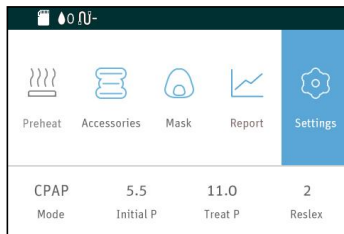
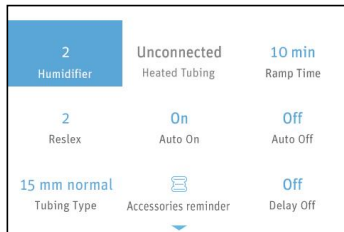

Fig. 16-3
Fig. 16-4
(1) Insert the WiFi kit into the device, and connect the power supply. Turn **the Knob** until the cursor is on the icon and the device screen displays the Main Interface shown in Fig. 16-3. Press **the Knob**, and the first option on the Initial Setup Interface turns blue, as shown in Fig. 16-4.